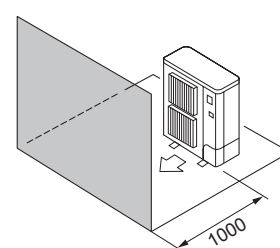

Fig. 2-9
- ④ Kun forhindringer foran (Fig. 2-9)